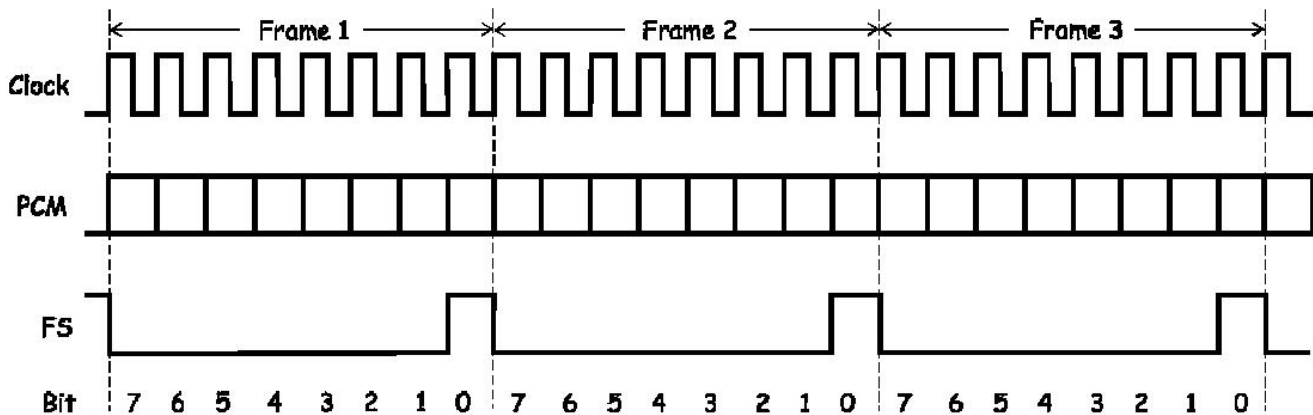

Figure 1:
A little information about the ETT-101 PCM Encoder module: The PCM Encoder module uses a PCM encoding and decoding chip (called a codec) to convert analog voltages between -2V and +2V to an 8-bit binary number. With eight bits, it's possible to produce 256 different numbers between 00000000 and 11111111 inclusive. This in turn means that there are 256 quantisation levels (one for each number). Each binary number is transmitted in serial form in frames. The number's most significant bit (called bit-7) is sent first, bit-6 is sent next and so on to the least significant bit (bit-0). The PCM Encoder module also outputs a separate Frame Synchronisation signal (FS) that goes high at the same time that bit-0 is outputted. The FS signal has been included to help with PCM decoding but it can also be used to help 'trigger' a scope when looking at the signals that the PCM Encoder module generates. Figure 1 shows an example of three frames of a PCM Encoder module's output data (each bit shown as both a 0 and a 1 because it could be either) together with its clock input and its FS output.